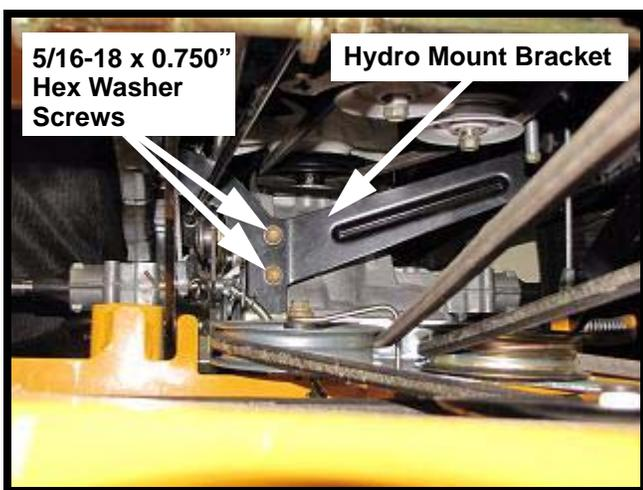

FIGURE 2
7. Remove the two (2) 5/16-18 x 0.750" hex washer screws that secure the hydro mount bracket to the transmission torque bracket. See Figure 2.